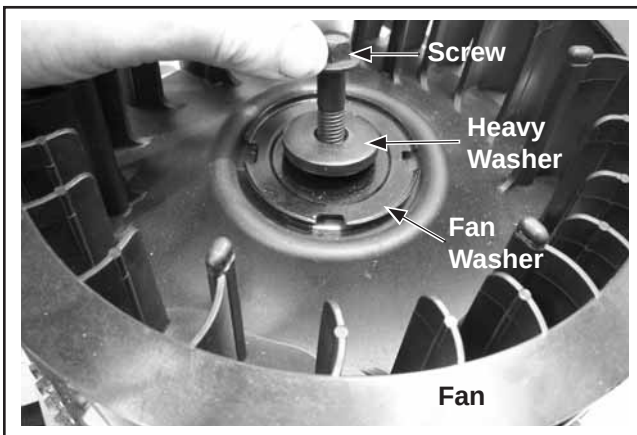

Figure 10-37. Installing Fan and Mounting Hardware to Flywheel.
4. Install the fan mounting plate onto the fan, aligning the four cutouts, followed by the heavy flat washer and hex flange screw. See Figure 10-37.